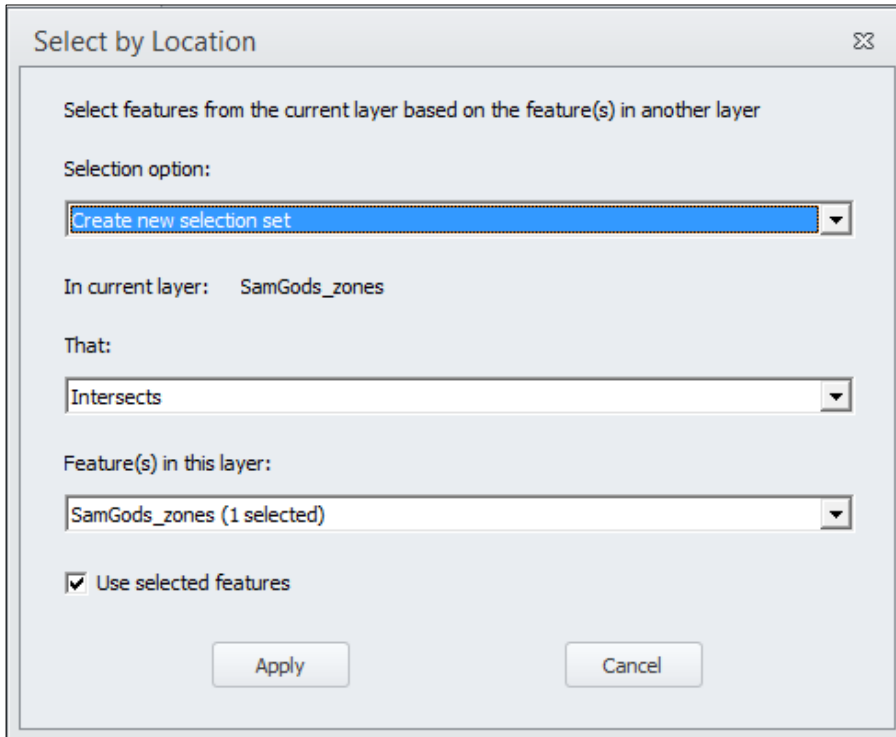

Figure 71 The Select by Location window.
- 6) On the main toolbar, select Datasets -> Select by Location... to access the window in Figure 71 where appropriate changes can be done.